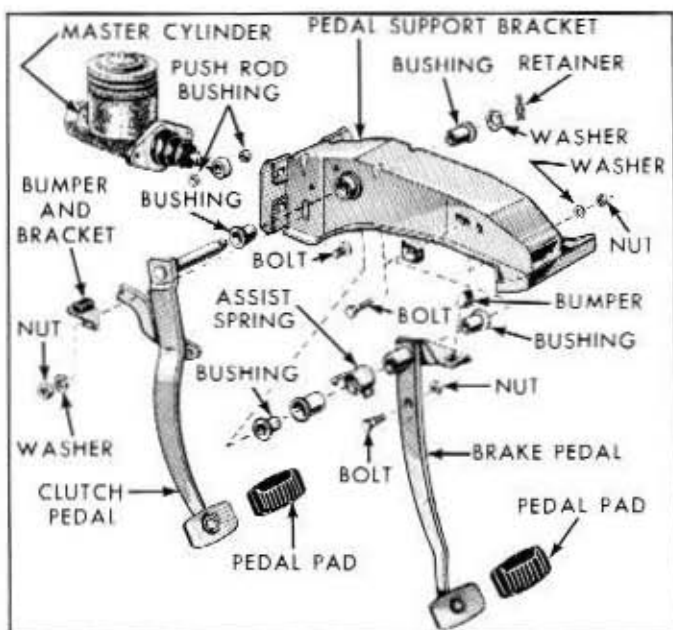

Fig. 2-5—Brake Pedal and Related Parts—Standard Transmission—(60C-2005)
1. Refer to figure 2-5. Back-off the clutch pedal over-center spring adjusting nut and disconnect the equalizer rod. Remove the clutch pedal stop, and the over-center spring bracket from the support bracket.